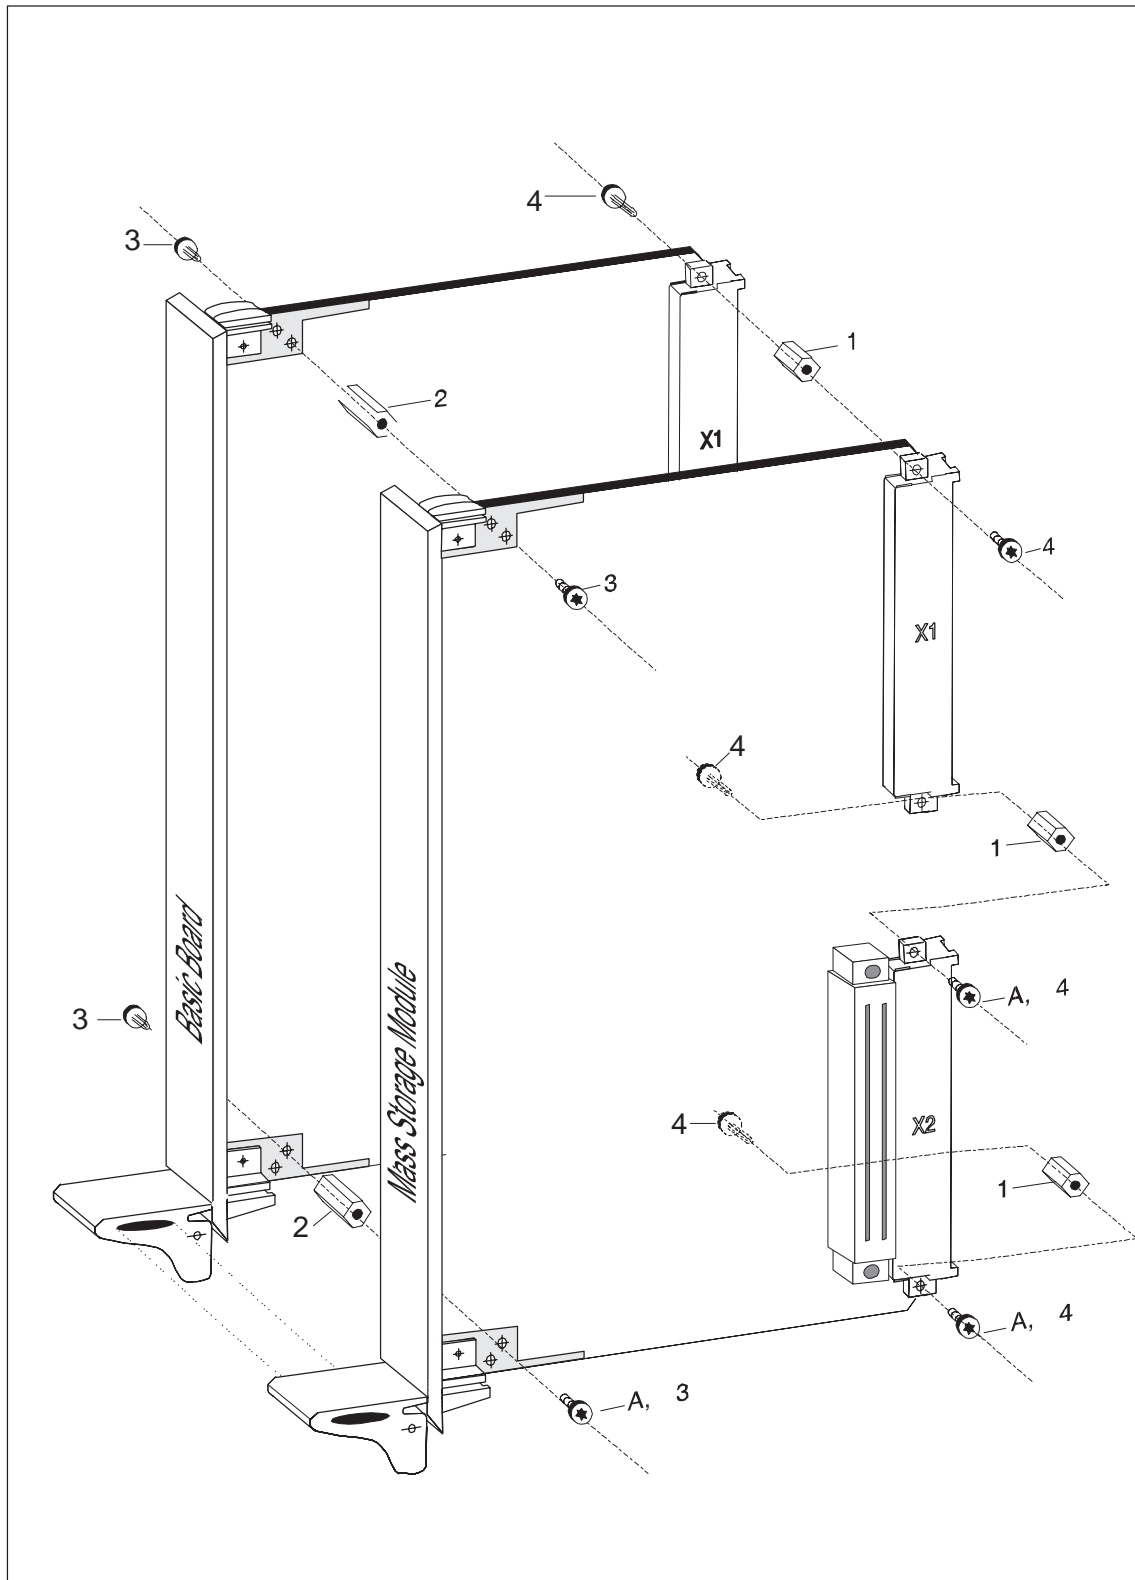
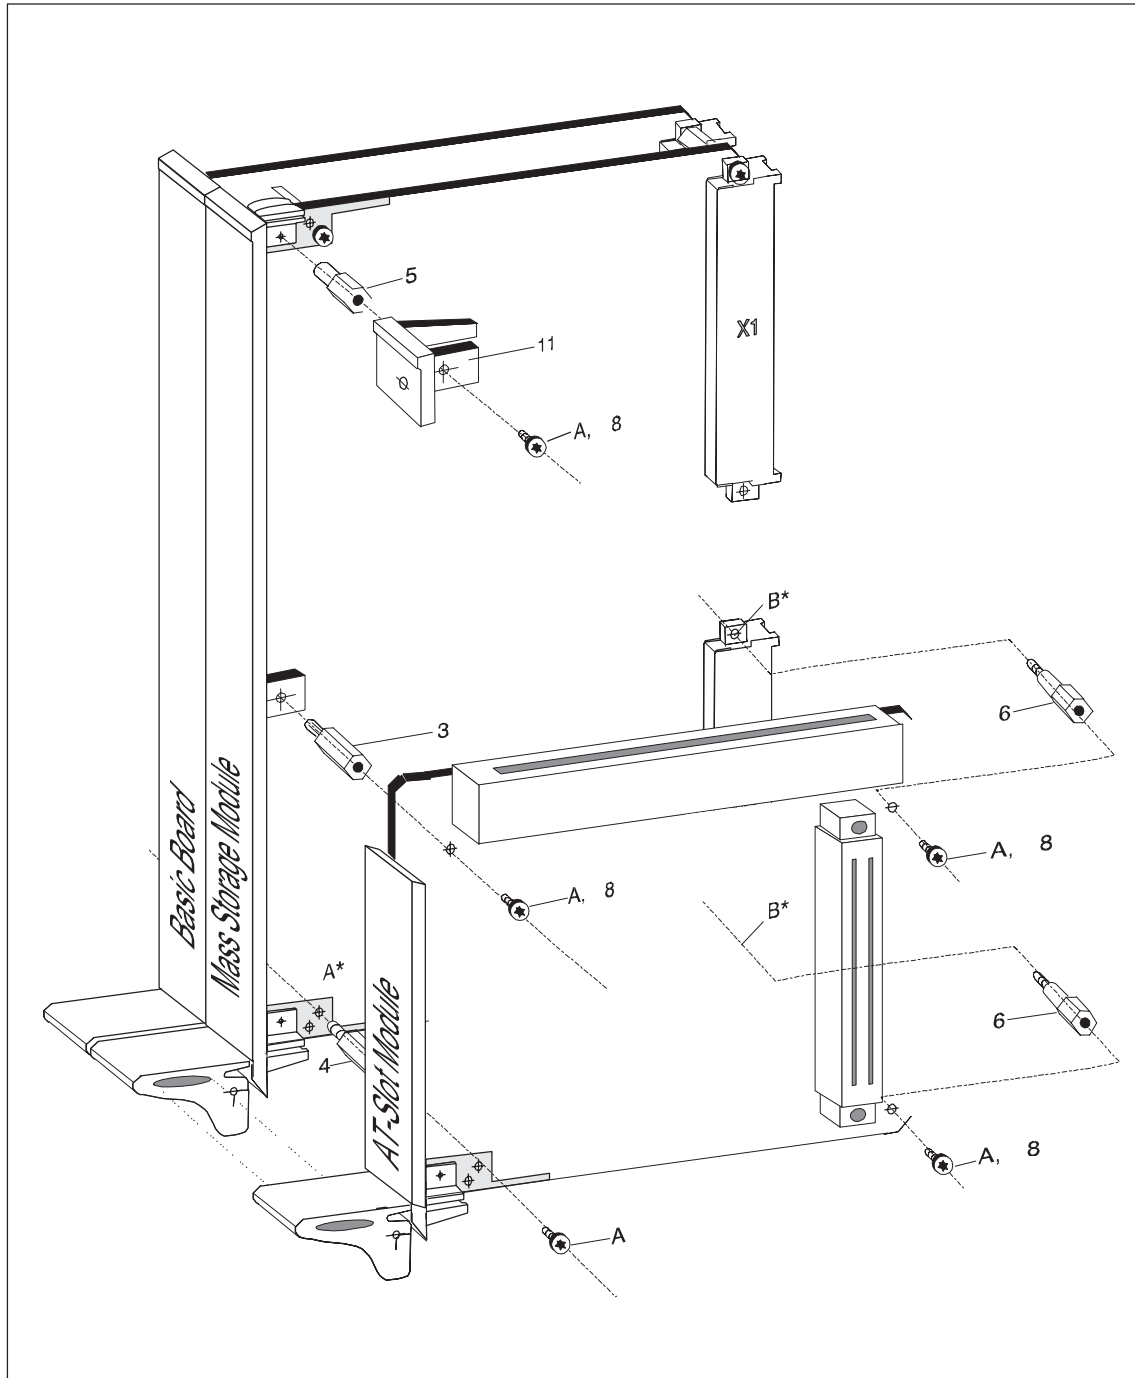
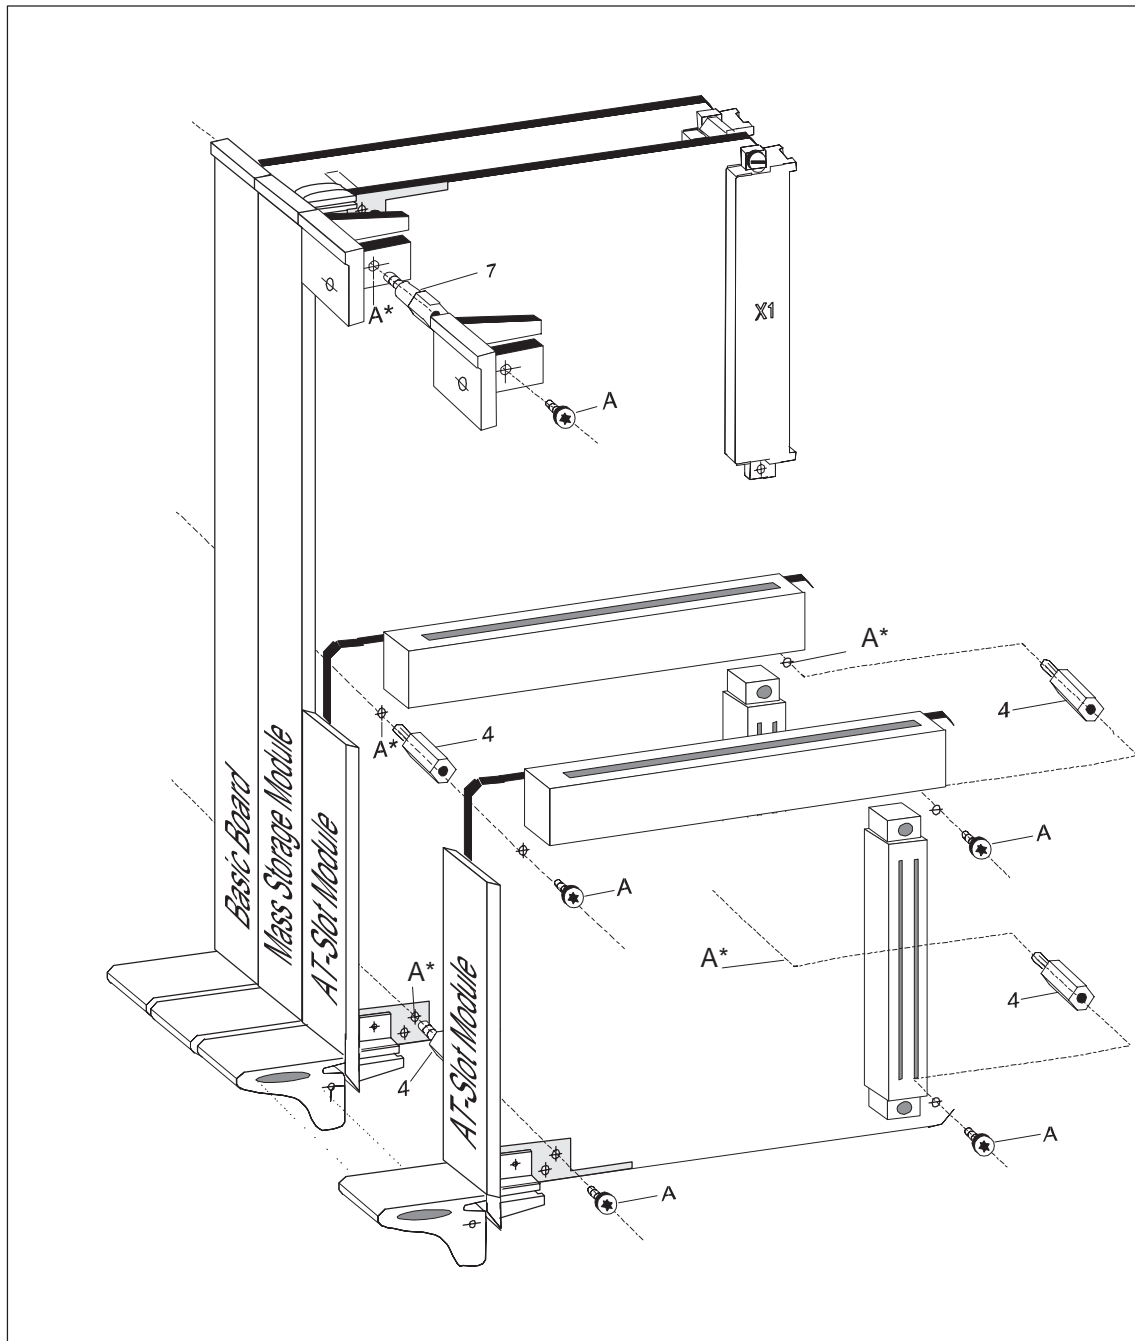

Figure 2-6 Assembly of the Mass Storage Module onto the Basic Board
Figure 2-10 Assembly of an AT Slot Module onto the Mass Storage Module
Figure 2-11 Assembly of Two AT Slot Modules onto the Mass Storage Module
Proceed as follows according to Figure 2-6 in order to assemble the modules:
1. Screw the spacers “1” and “2” onto the basic board according to Figure 2-6. Insert the screws “3” and “4” from the solder side (the side of the module provided with a cover).
3. Screw the two modules together as in Figure 2-6. If you wish to fit the AT slot module immediately, **do not tighten** the screws identified “A.”
Proceed as follows according to Figure 2-10 in order to assemble the modules:
Loosen the two screws identified “A*” and “B*”. Screw “A*” is required for the further assembly (identified by “A” in Figure 2-10), screws “B*” are replaced by the screws identified by “A, 8” in Figure 2-10.
2. Screw in the spacer bolts “3,” “4” and “6” according to Figure 2-10.
4. If you do not wish to fit a further AT slot module, screw the two modules together using the screw identified “A” and the three screws identified “A, 8” in Figure 2-10 and fit the part “Front panel, top” (“11”) onto the spacer bolt “5” using a screw “A, 8.”
If the spacer bolts “6” in Figure 2-10 do not immediately grip when screwing in, slightly loosen the screws identified “4” in Figure 2-6 (1/4 revolution), screw in the bolts and tighten the screws again.
Proceed as follows according to Figure 2-11 in order to assemble the second AT slot module:
Remove the five screws identified "A*". The screws are required for the further assembly (identified "A" in Figure 2-11).
2. Screw in the spacer bolts as in Figure 2-11.
4. Screw in the two AT slot modules together as in Figure 2-11 using the four screws identified "A."
5. Fit the first part, "Front panel, top," onto the spacer bolts identified by "5" in Figure 2-10; tighten the part using spacer bolt "7" (Figure 2-11). Using the fifth screw "4", subsequently fit the second part "Front panel, top" onto the spacer bolt "7" screwed in for securing the first part.